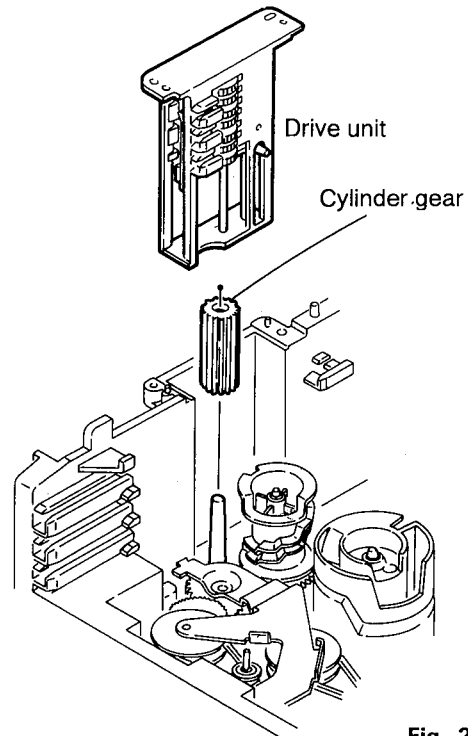

Fig. 2-26
3. Pull out the drive unit and cylinder gear (See Fig. 2-26).